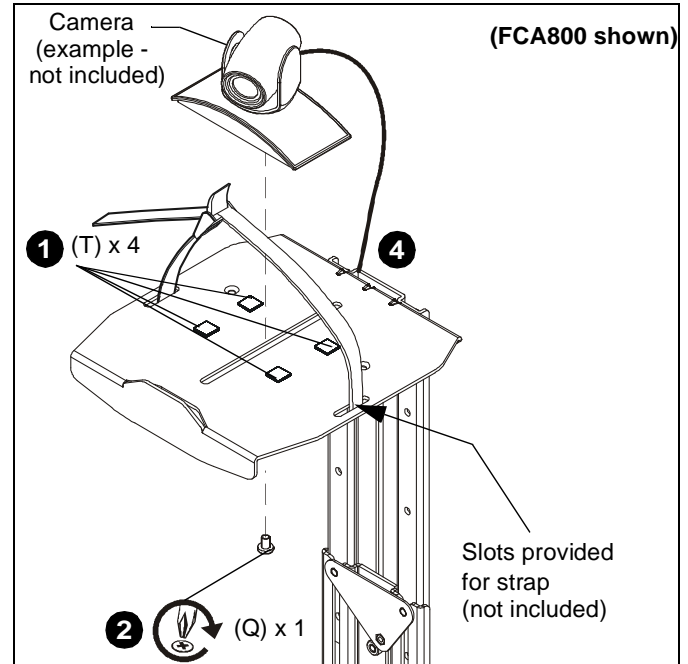
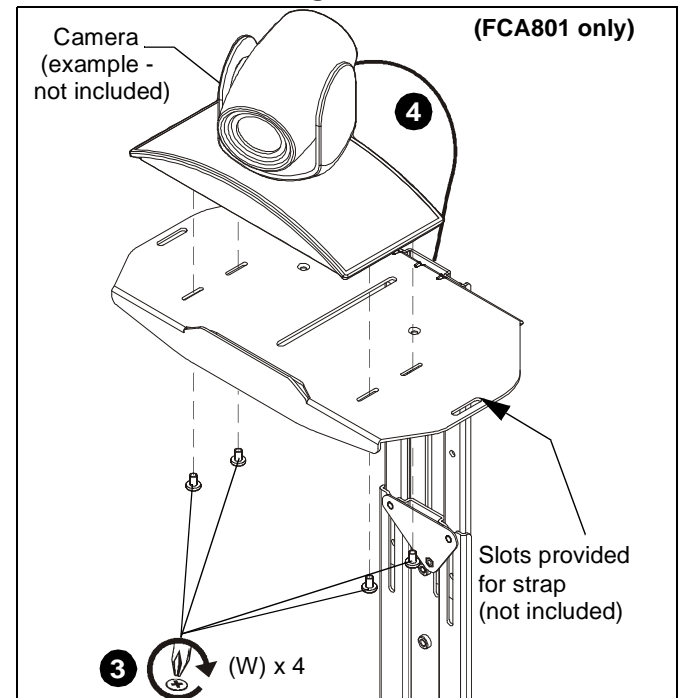

Figure 27
Figure 28
2. (Single Screw option) Install 1/4-20 x 3/8" Phillips pan machine screw (Q) through mounting slot on shelf and into hole on bottom of camera. (See Figure 27)
3. (Multiple screw option - FCA801 only) Install four #4-48 x 1/4" Phillips pan machine screws (W) through outside mounting slots and into holes on bottom of camera. (See Figure 28)
4. Route cable from camera towards back of shelf and down behind the FCA800/801. (See Figure 27) and (See Figure 28)
NOTE: OPTIONAL: Slots are provided in shelf for strap (not included) to hold camera in place. (See Figure 27)